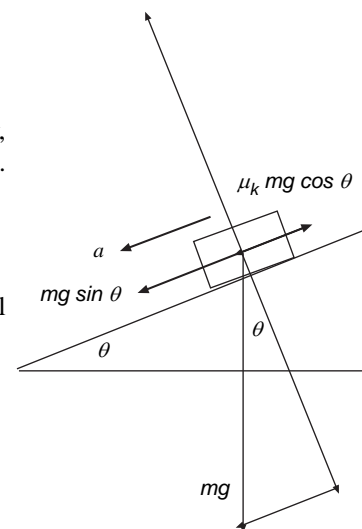

Figure 4.1
1. Set up the PAStrack and Inclined Plane Accessory as shown in Figure 4.1 with a Photogate Head and Photogate Bracket. Elevate the PAStrack to a shallow angle.